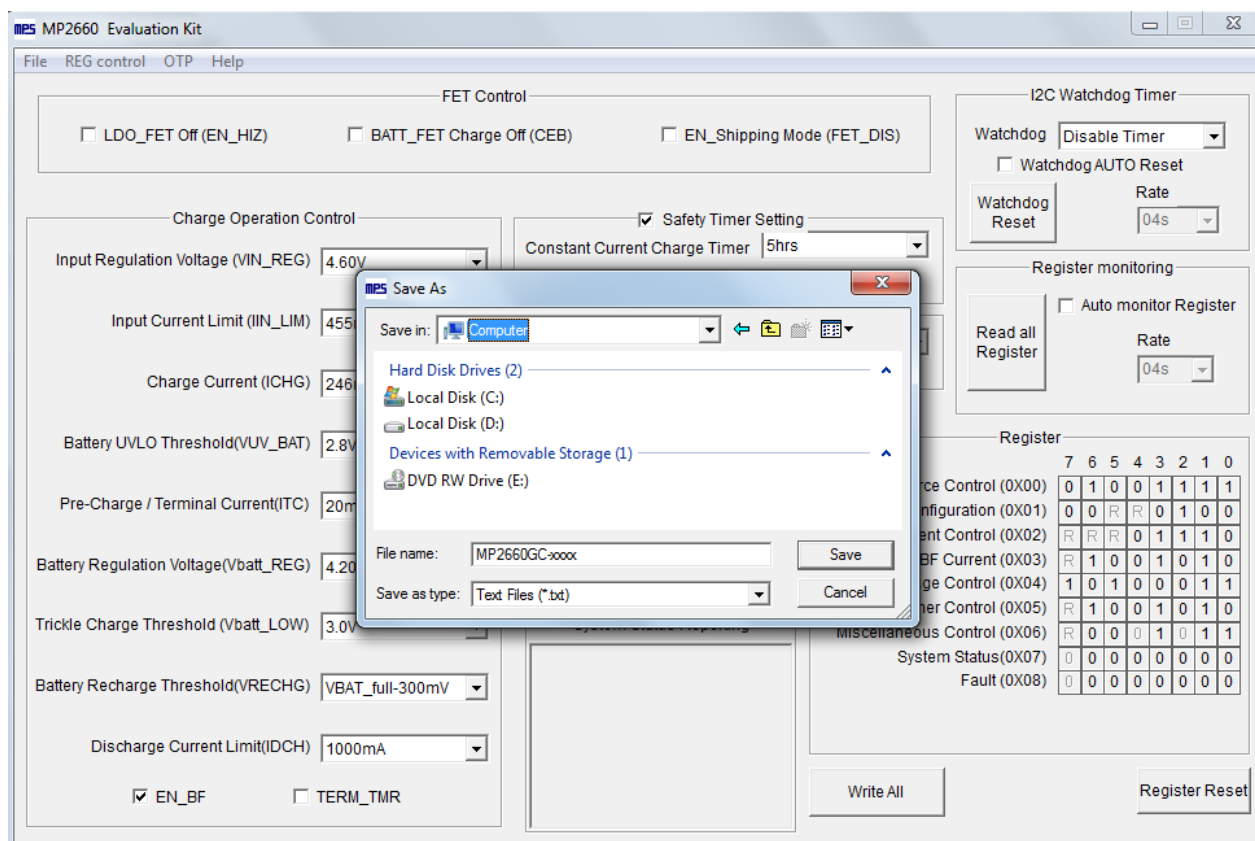

Figure 11: Various Export Locations Available
6. Find a location for the exported file and click "Save." Your configurations will be saved in a text file (see Figure 11).